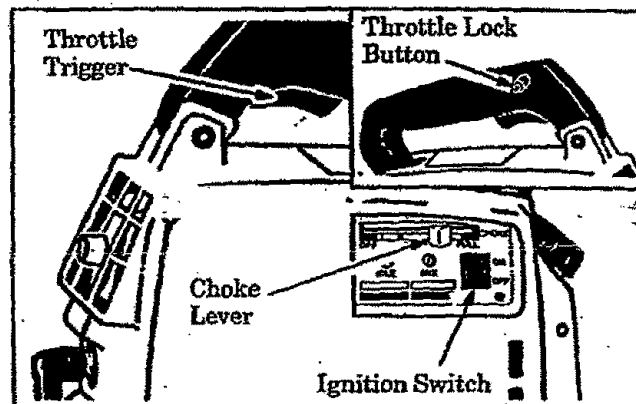

Figure 11
- Move Ignition Switch to the "ON" position. Figure 11.
- Move Choke to "FULL". Figure 11.
- Press and hold the throttle lock button. Figure 11 (inset).
- e. Move Choke to "HALF". Figure 11.
- g. Allow engine to run for 5 seconds, then move Choke to "OFF" position. Release Throttle Lock by squeezing and releasing the Throttle Trigger. Figure 11.
- h. To stop engine, move ignition Switch to "OFF" position. Figure 11.
- a. Move the Ignition Switch to the "ON" position. Figure 11.
- b. Move Choke Lever to the "HALF" position. Figure 11.
- c. Engage Throttle Lock. Figure 11 (inset). Leave throttle lock engaged thru step "d."
- e. Move Choke to "OFF". Figure 11.
- f. Release Throttle Lock by squeezing and releasing the Throttle Trigger. Figure 11.
- g. To stop engine, move Ignition Switch to "OFF" position. Figure 11.
1. Move the choke lever to "Full". Figure 11.
9. Reassemble air filter/cover assembly to unit. Return choke lever to the "Off" position. Figure 11.